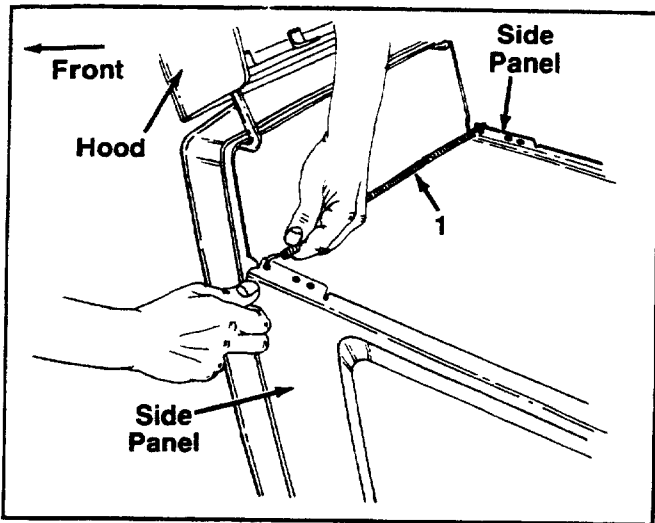

FIGURE 1.
1. Remove the two side panels from tractor, by opening the hood and removing the extension spring, flat washer and wing nut on each side. See figures 1 and 2. Retain spring and hardware for reassembly.